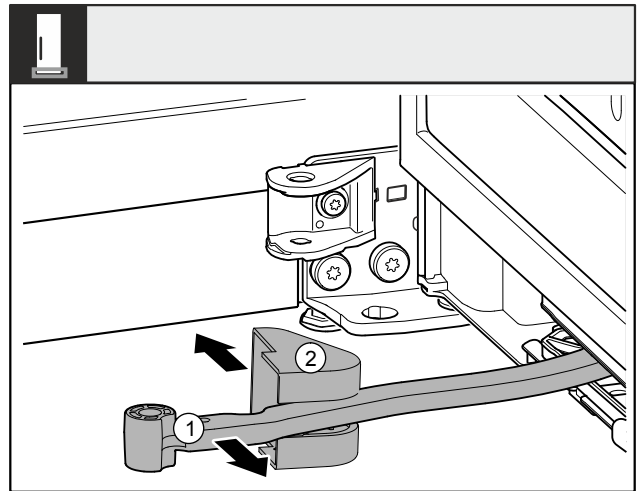

Fig. 9
- Turn the joint Fig. 9 (1) towards the door.
- Remove the swap bearing block cover Fig. 9 (2).